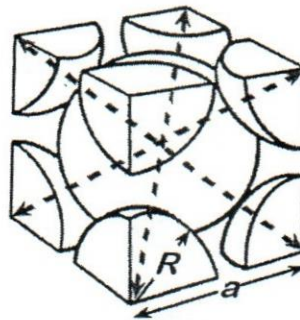

Figure 1: Body-Centered atomic structure
- (a) Draw (100) and (111) crystallographic planes for Fe [4 Marks]
5. Calculate Atomic Packing Factor [APF] for Body-Centered Cubic Structure. (Hint: Use Figure 1) [4 Marks]